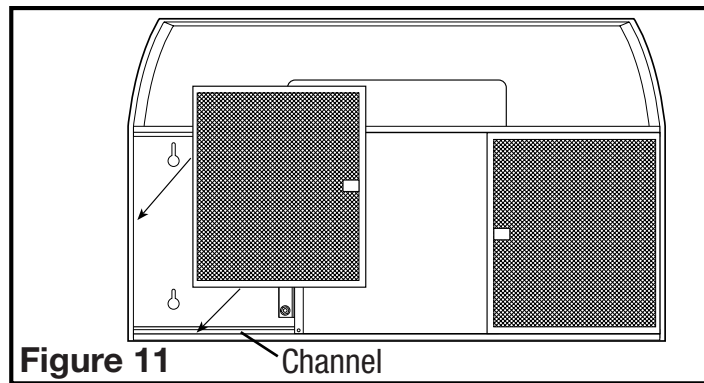

Figure 11 Channel
2. Reinstall the filters by fitting them into the channel on either side of the hood and pushing upwards on them until they are secured in place (Figure 11).